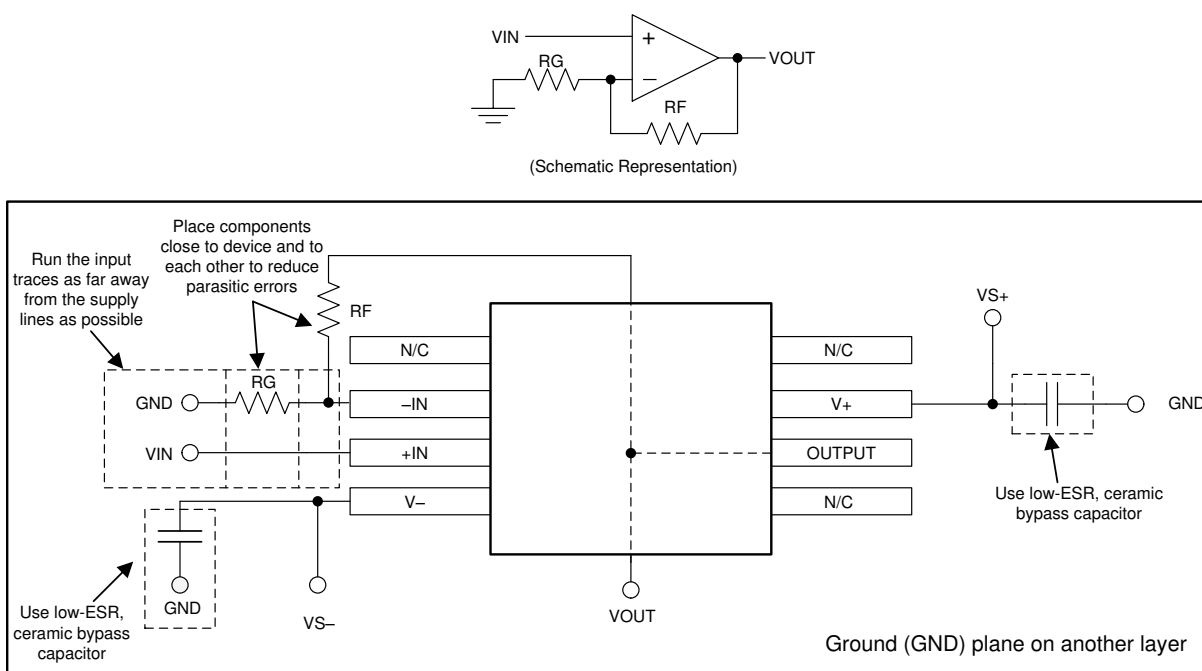

图 10-1. Layout Example
- Place the external components as close to the device as possible. As shown in Figure 10-1, keeping RF and RG close to the inverting input minimizes parasitic capacitance.